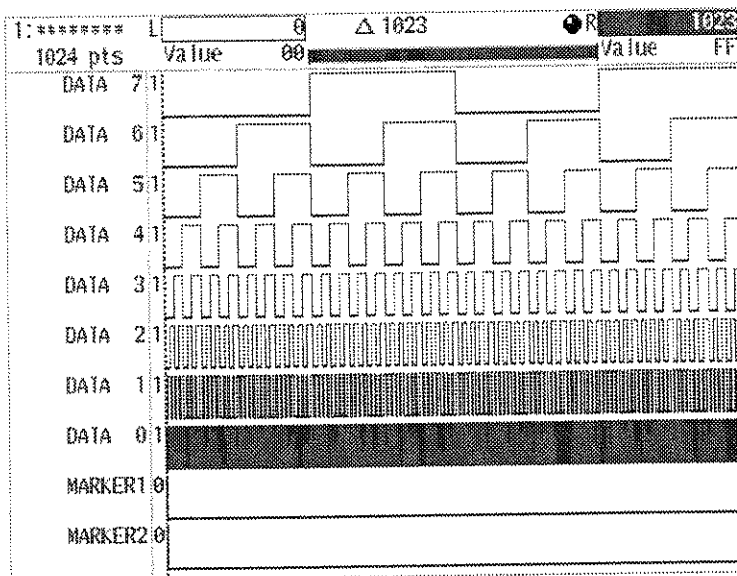

Figure 4A-81: Count Up Pattern Display
- **Count Up** — Data is created sequentially, increasing from the initial value designated with **Min** to the maximum value designated with **Max**. When the maximum value is exceeded, the waveform will return to the initial value and begin counting up again. In the example shown in Figure 4A-81, the waveform point size is 1024, **Step** has been set to 2, and the **Min** and **Max** values have been set to 0 and 255, respectively. The pattern is repeated twice.